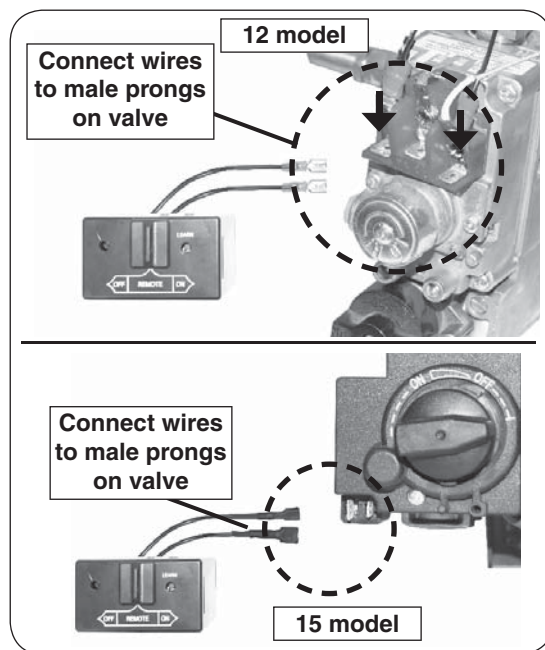

Fig. 16-3 Connect remote receiver to valve
2. Locate the wires coming off of the remote receiver, and connect them to the two male prongs found on the valve (see Fig. 16-3).